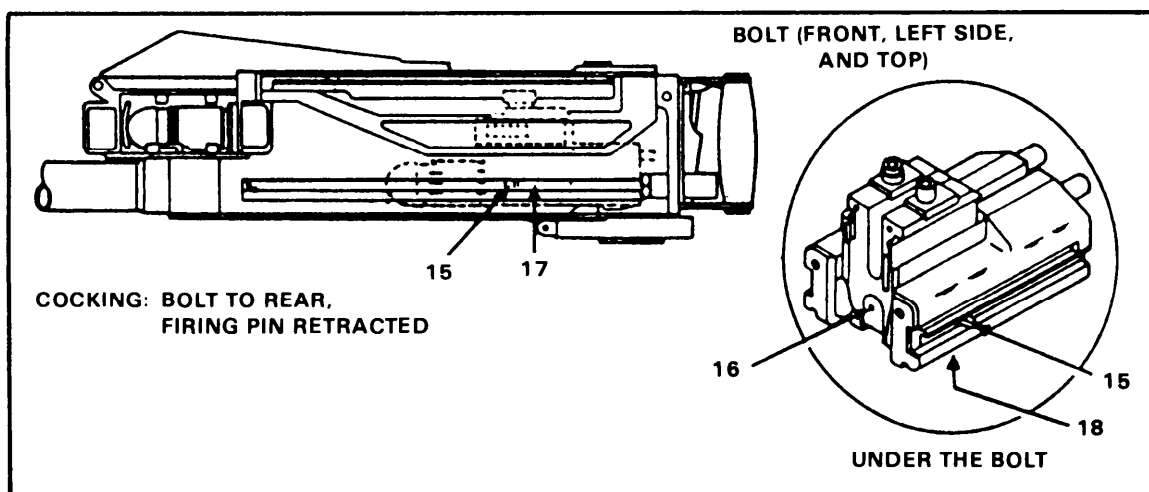

Figure 2-27. Cocking the MK 19.
c. Cocking. The rearward movement of the bolt (Figure 2-27) causes the cocking lever (15) to retract the firing pin (16). When the cocking lever hits the rear end of the left receiver rail slot (17), the cocking lever is forced forward. The cocking lever retracts the firing pin, which the firing pin sear holds to the rear (18).